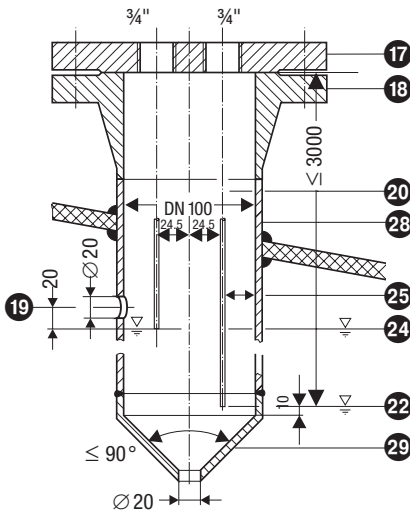

Fig. 18 Protection tube (provided on site) if electrode is used as internal water level-limiter combined with water level control or high water level alarm
- **One** level electrode NRG 1...-51 can be installed together with one GESTRA level electrode, one level switch or transmitter for water level control and high level alarm in one single protection tube or level pot (inside diameter 100 mm.) **Fig. 18.** If an electrode for water level limiting type NRG 1...-50 is installed inside the vessel, it must be at least 40 mm away from the upper vent hole.